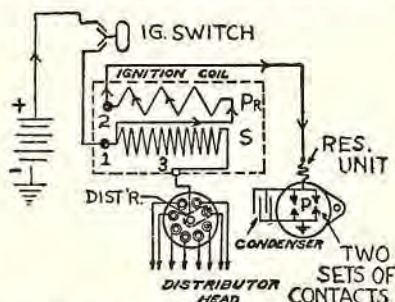

Fig. 6B. Illustration showing circuit where two sets of contact-breakers (connected in parallel) are used.
The primary circuit (Fig. 6B) runs from battery (+), to switch, to (1), through the primary winding (P), to (2), to the ignition resistance unit mounted on the interrupter housing, to the interrupter points (P) connected in parallel, to ground, to (-) ground of battery. Note that the condenser is shunted across the two contact points.